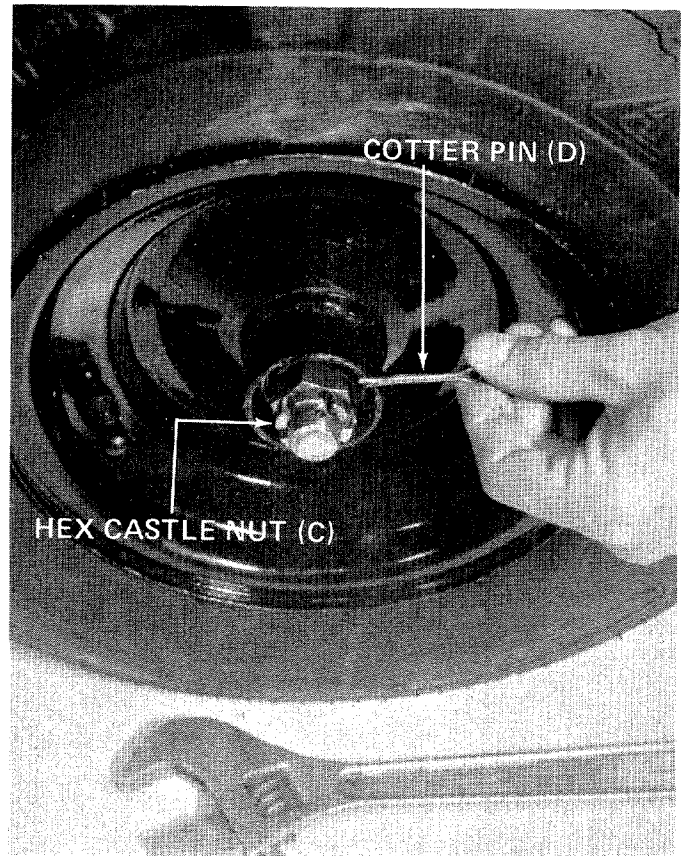

FIGURE 4
3. Thread hex castle nut (C) on axle. Tighten castle nut until snug, back off approximately 1/3 turn or until one of the slots on the castle nut lines up with hole in axle. Secure castle nut to axle with cotter pin (D). See figure 4.